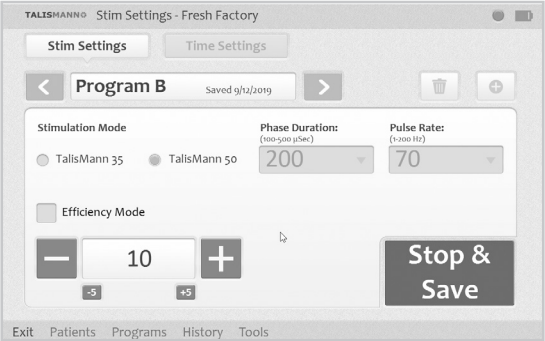

Figure 9-7: Press “Stop & Save” to stop testing and save the current stimulation settings
6. Press the “Stop & Save” button to stop stimulation and save the stimulation settings to the Clinician’s Programmer, Patient Programmer and E-EFC. See Figure 9-7.